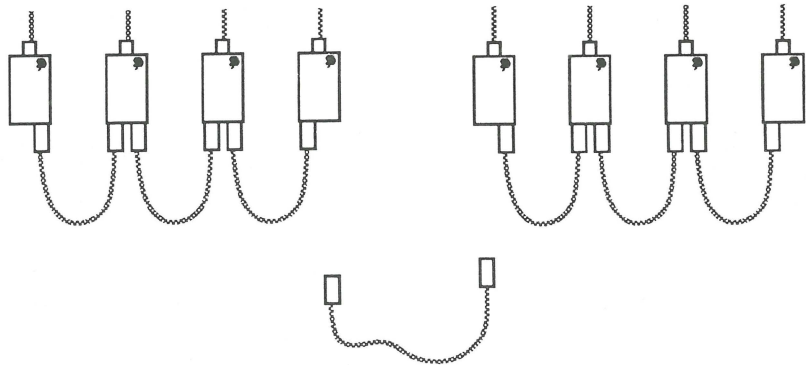

FIGURE 3
1. Remove the center cable in the network (see Figure 3).